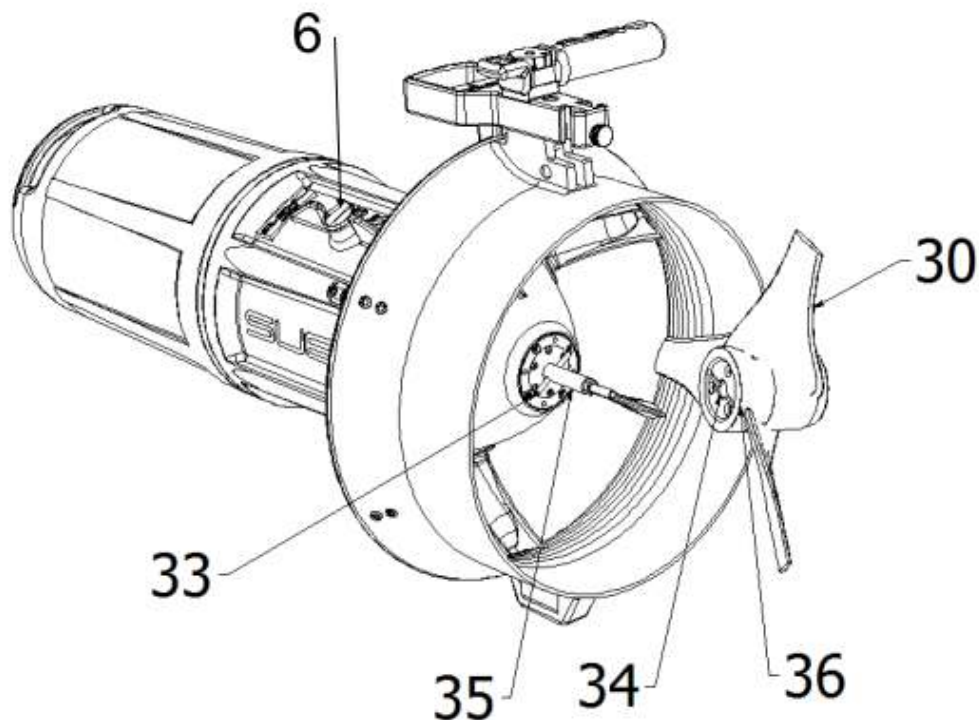

Fig.9
Insert the propeller (hole 36 Fig.9) in motor shaft of the SCOOTER (35), turn the propeller (clockwise) until the pin (33) matches the seat (34) propeller. When you hear a click, the propeller will stop turning. Continue by turning (CLOCKWISE) the switch (6) WITH THE FINGER ONLY, WITHOUT FORCING.